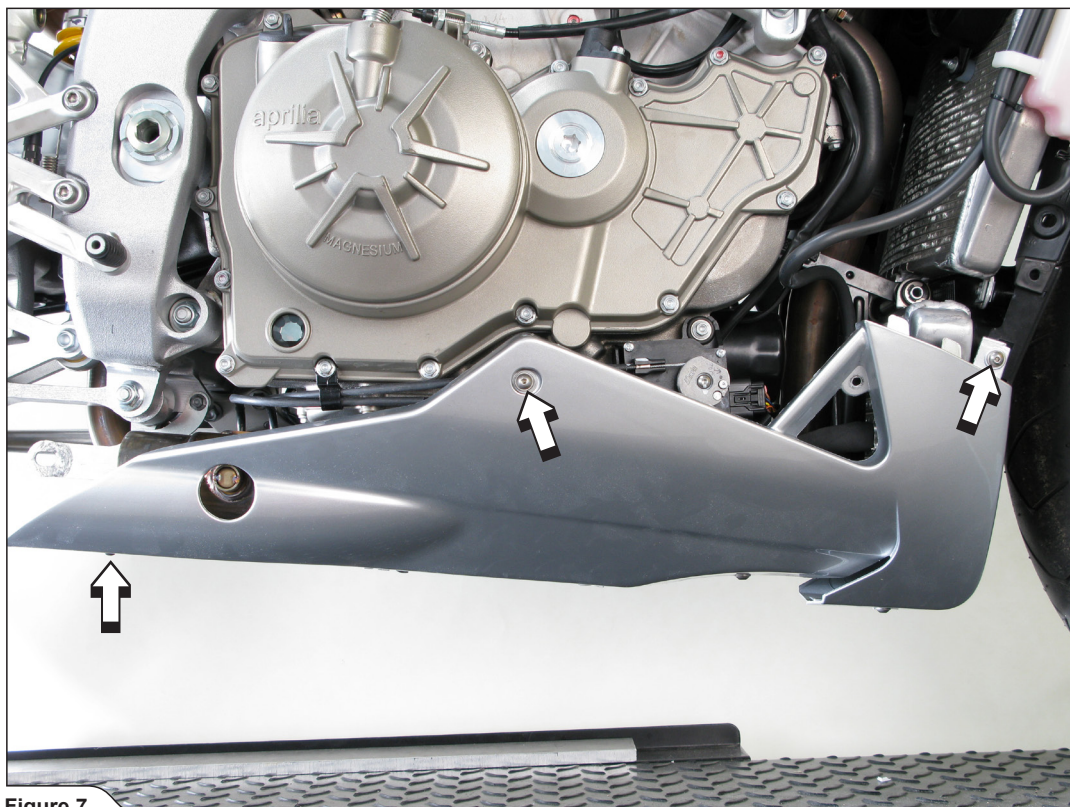

Figure 7
5. Unscrew the marked bolts and remove the lower part of the cowling (**Figure 7**).